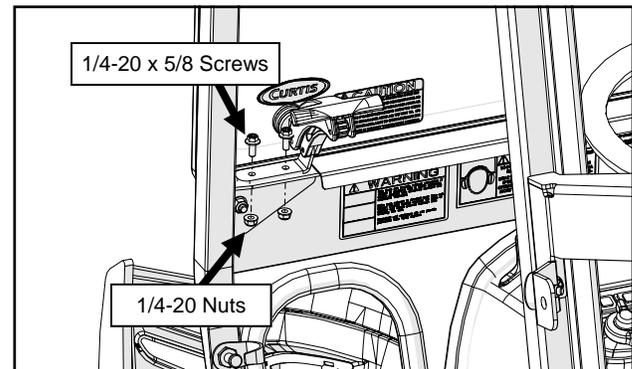

Fig. 13.2 (Secure Windshield Latches)
13.2 Secure the windshield latches to the A-pillars with the latches open, and tighten latch hardware. See Fig. 13.2.